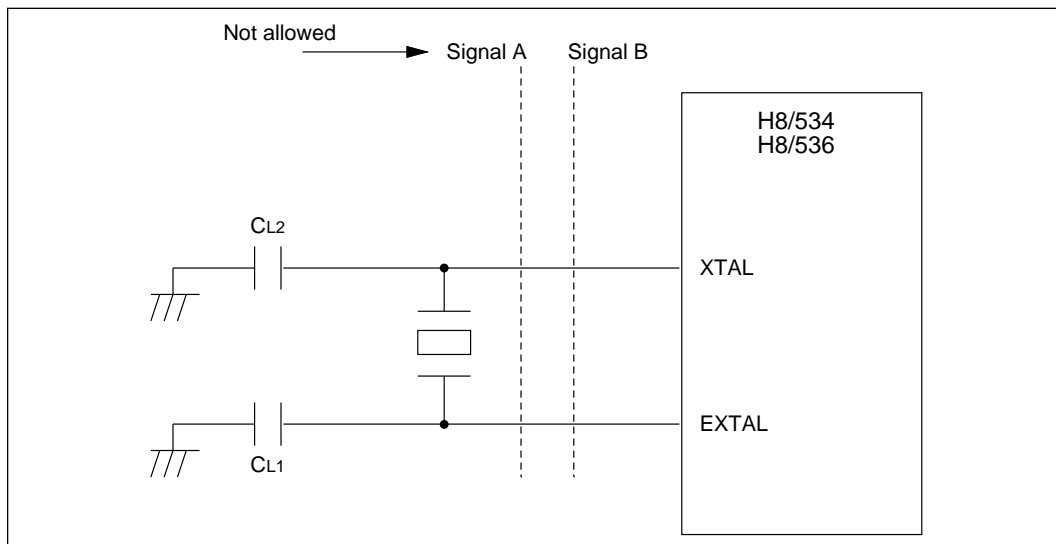

Figure 8-4 Notes on Board Design around External Crystal
(3) **Note on Board Design:** When an external crystal is connected, other signal lines should be kept away from the crystal circuit to prevent induction from interfering with correct oscillation. See figure 8-4.